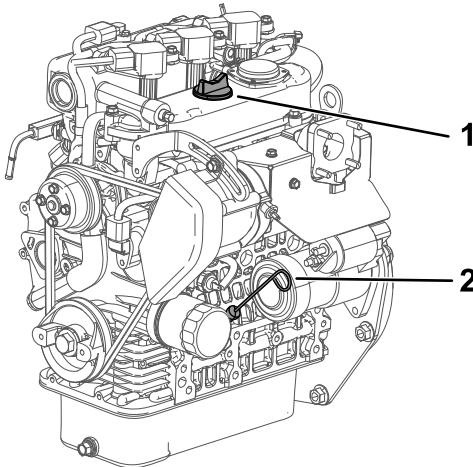

Figure 34
5. Insert the dipstick into the tube and ensure that it seats fully (Figure 34).
6. Remove dipstick and check the oil level (Figure 34).
7. If the oil level is low, remove the filler cap (Figure 34), and add enough oil to raise the level to the Full mark on the dipstick.
4. Remove the dipstick and wipe it with a clean rag (Figure 34).
8. Install the dipstick firmly in place (Figure 34).